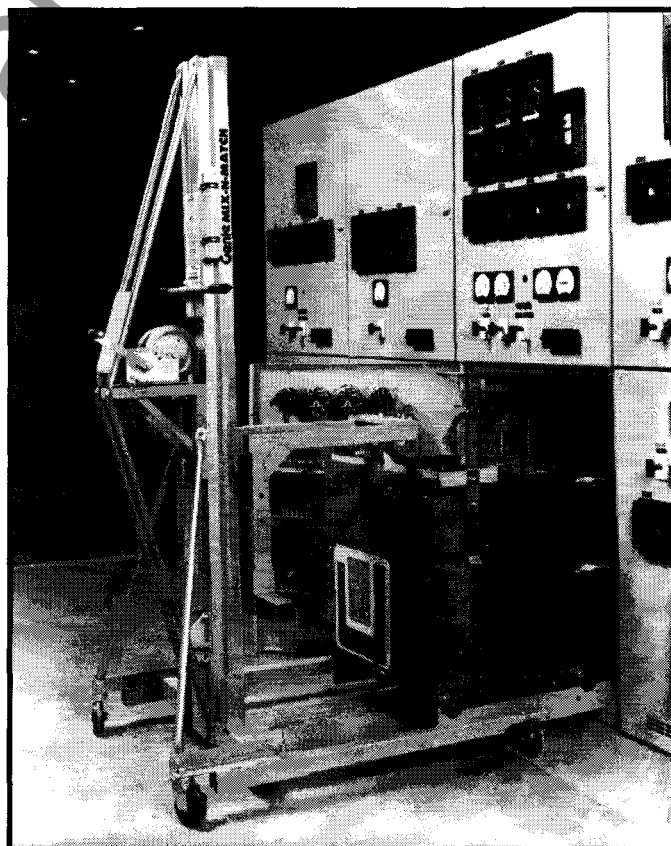

FIG. 3A LIFTING AND SETTING OF BREAKER IN HOUSING
13. Install the breakers per figure 3A using optional portable lifter shown, or other device.